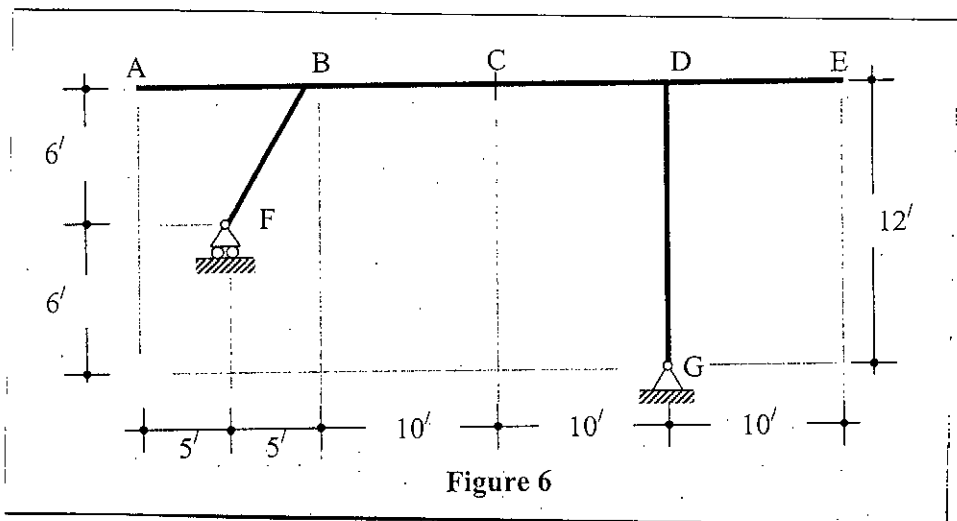

Figure 6
6. For the plane frame as shown in Figure 6, draw influence lines for
- (b) Fig. 6 shows the column reinforcement for a 16 in. diameter concrete column. Analysis of the building frame indicates a required $A_s = 7.30$ in² in the lower column and 5.80 in² in the upper column. Spiral reinforcement consists of #3 bars with a 2 in pitch. Column bars are to be spliced just above the construction joint at the floor level, as shown in the sketch. Calculate the minimum permitted length of splice. Given, $f'_c = 5$ ksi, $f_y = 60$ ksi. (15)